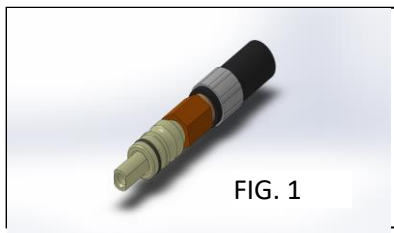

FIG. 1
- 9) Remove the dual liner collet from the power cable assembly. (FIG. 1)